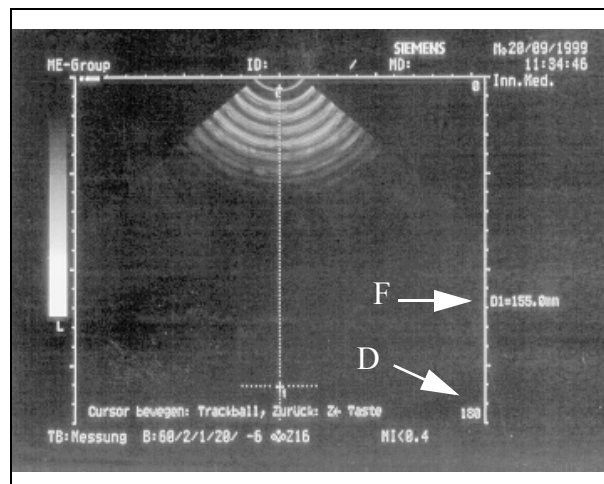

Fig. 18
- Use the track ball to move to the center of the crosshairs. In the display (F/Fig. 18), a value of - see Table - must appear that is relative to the probe. If this is not the case, the adjustment procedure must be repeated for the potentiometer in the ultrasound arm or the ultrasound arm must be replaced.